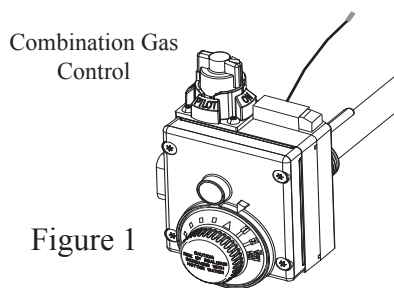

Figure 1
Inspect contents for possible missing or damaged components. See Figure 1. This kit includes:
- Qty. 1 (one) – Combination Gas Control - See Figure 1.